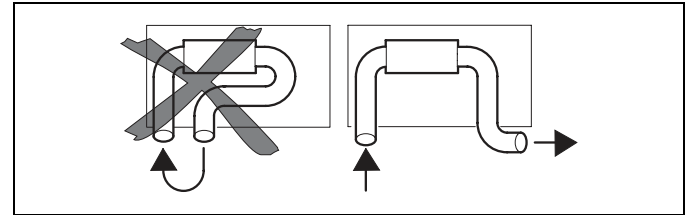

Fig. 13: Avoid short circuits
- No air short circuit between the heater's air inlet and the heater's air outlet (see Fig. 13);